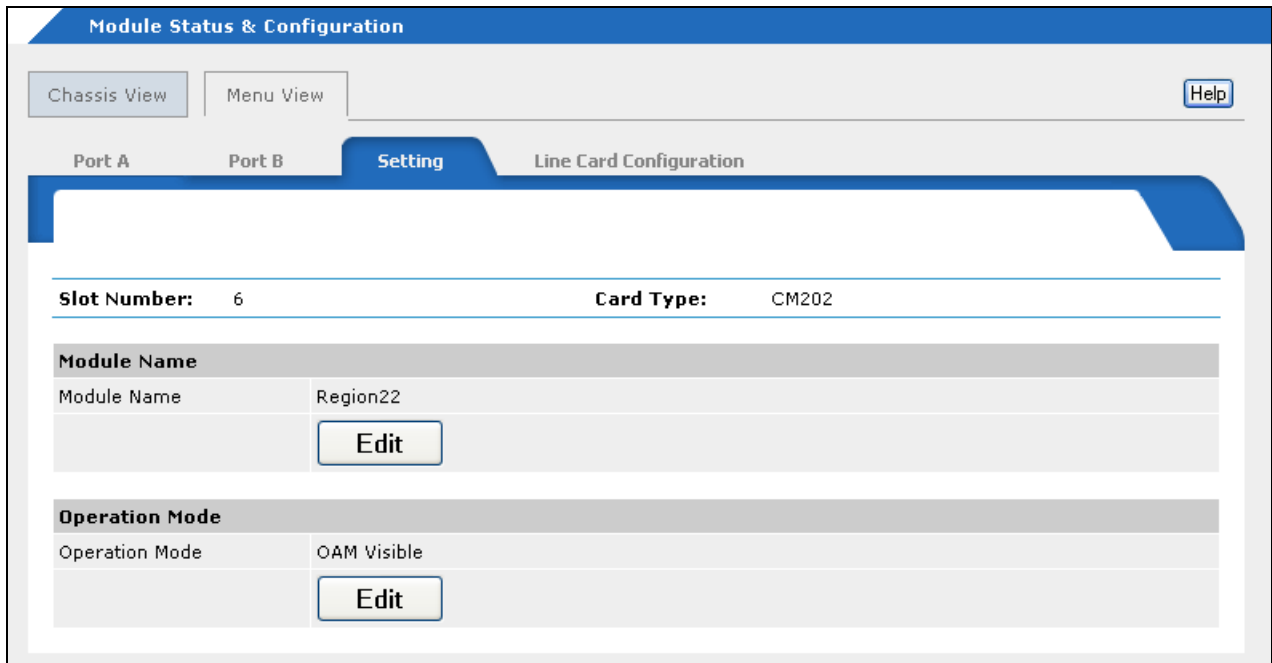

Figure 58. Setting Window
3. Click the **Setting** tab, shown in Figure 58.